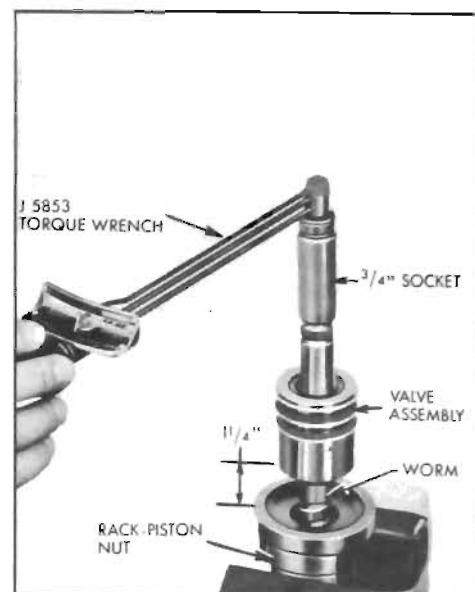

Figure 8-57—Checking Rack-Piston Nut Ball Preload
8. The worm groove is ground with a high point in the center. When the rack-piston nut passes over this high point, a preload of 1 to 5 inch pounds should be obtained. To measure the preload of the assembly, lightly clamp rack-piston nut in a soft jaw vise with worm pointing up. Do not distort rack-piston nut by tightening too heavily. Place valve assembly on worm, engaging worm drive pin. Rotate the worm until it extends 1-1/4 inches from the edge of rack-piston nut to the thrust bearing face of worm; this is the center position. Attach Torque Wrench J-5853 with 3/4 inch, 12 point socket to the stub shaft. See Figure 8-57. Rotate the wrench through a total arc of approximately 60 degrees (1/6 turn) in both directions several times and take a reading. The highest reading obtained with the worm rotating should be from 1 to 5 inch pounds. If the reading is too high, disassemble and reassemble, using the next size smaller plain balls and recheck. (A rack-piston nut with a ball size of 7 does not have a number stamped on the flat surface. For ball sizes other than 7, the ball size is stamped on the flat surface of the rack-piston nut.) If the reading is too small, use the next size larger plain balls and recheck. See paragraph 8-8, sub-